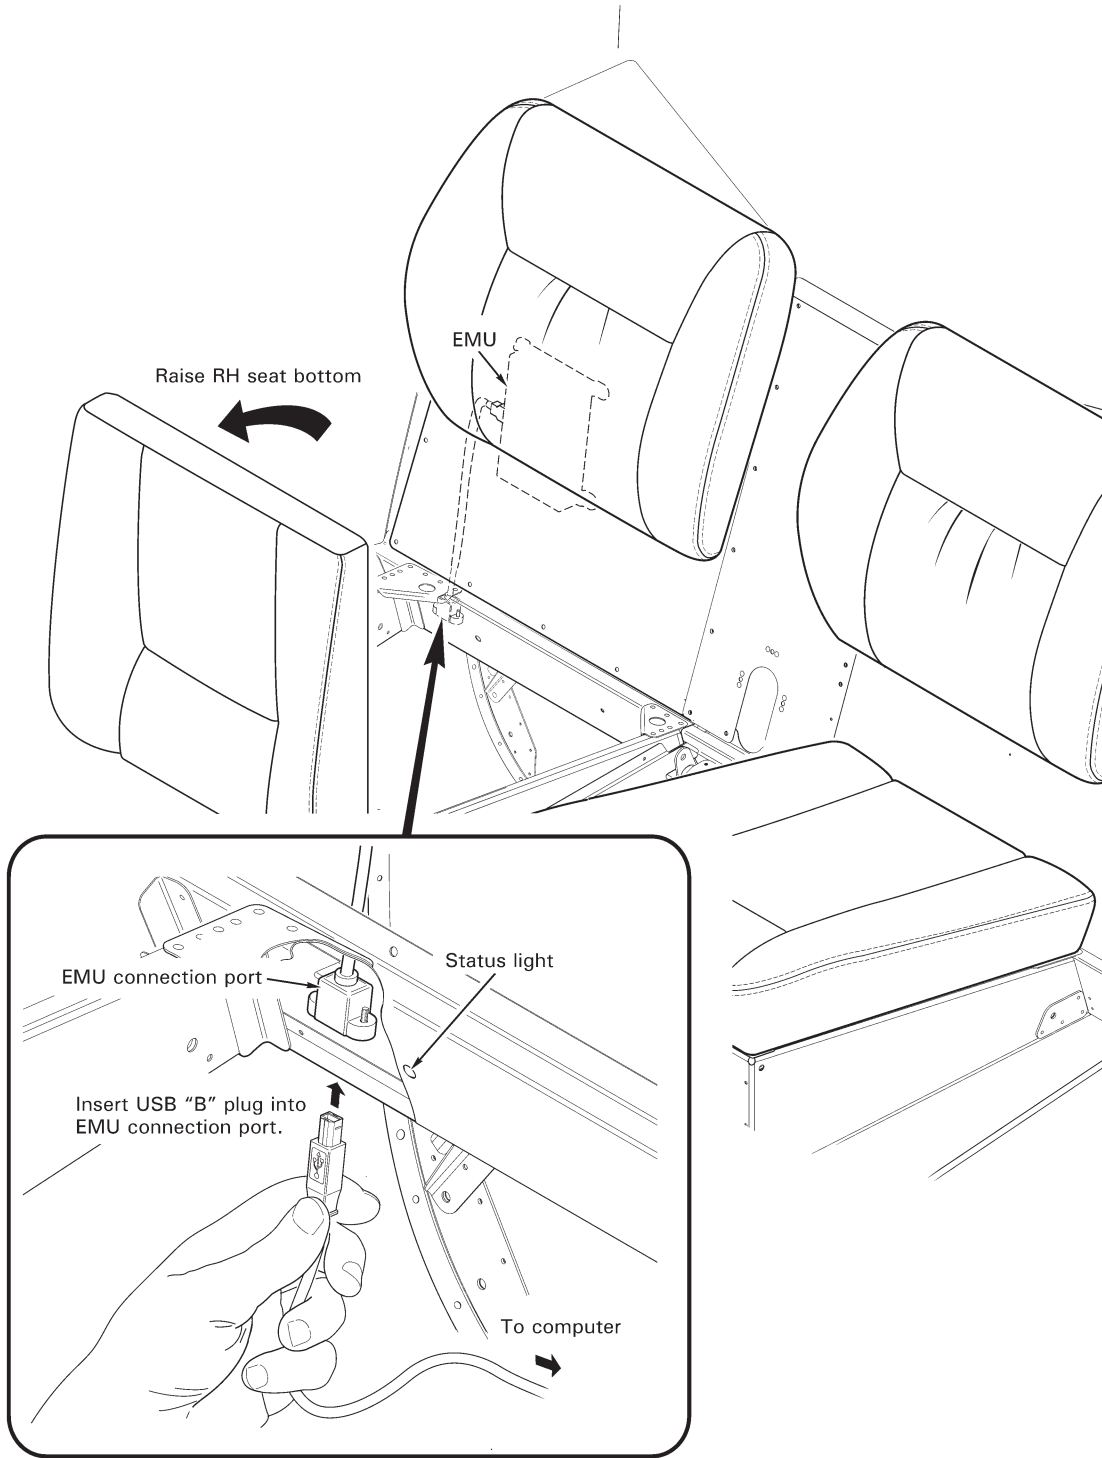
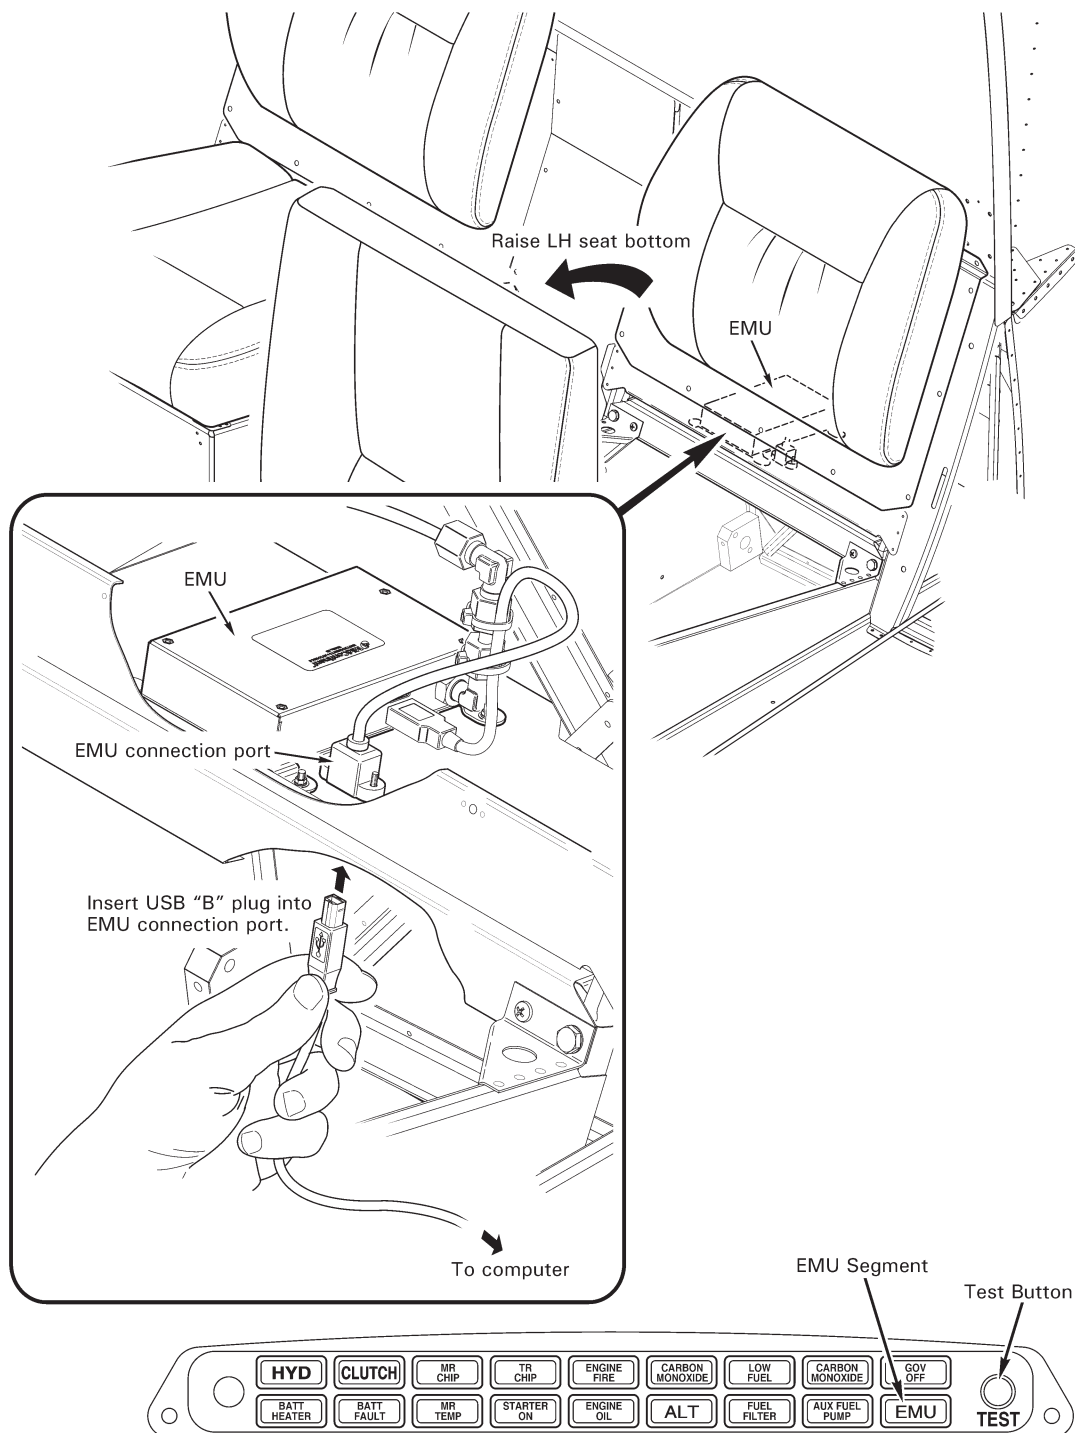

FIGURE 1 R22 EMU CONNECTION AND STATUS LIGHT
FIGURE 2 R44 EMU CONNECTION AND ANNUNCIATOR PANEL WITH EMU SEGMENT
The EMU is an electronic recording device housed in the same enclosure as the engine governor controller. It is installed behind the pilot's seatback in R22-series helicopters (Figure 1) and behind the left, rear seatback in R44-series helicopters (Figure 2).
For R22-series helicopters, EMU status is indicated by an amber light on the aft wall of the compartment under the pilot's seat (Figure 1). For R44-series helicopters, status is indicated by the amber EMU segment on the annunciator panel (Figure 2). EMU status is intended to be referenced only for preflight and maintenance activities and not to be a distraction to the pilot in flight. Therefore, on R44-series helicopters, the EMU segment will only illuminate while the annunciator panel test button is depressed.
The connection port is on the underside of the horizontal panel just aft of the seat opening for the pilot's seat on R22-series helicopters and the left rear seat on R44-series helicopters (Figure 1 and Figure 2). The small end of the USB cable plugs in vertically upward. A light and mirror may be helpful to find the port the first time.
- | Step 1:** With helicopter battery switch off and PC power on, connect the USB cable between the PC and EMU. The EMU port is on the underside of the horizontal panel just aft of the seat opening for the pilot's seat on R22-series helicopters and the left rear seat on R44-series helicopters as indicated in Figure 1 and Figure 2.